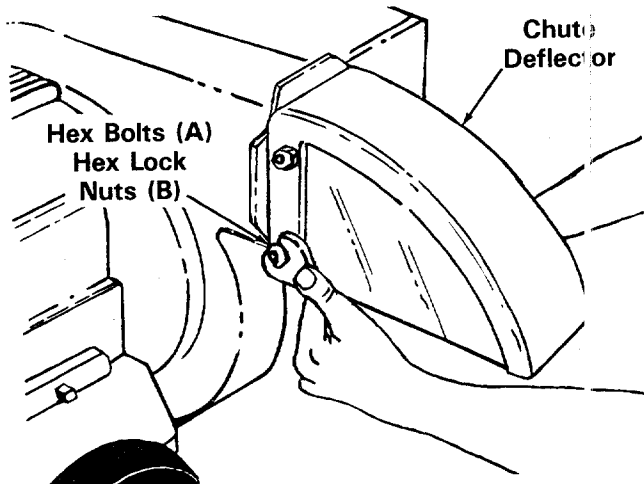

FIGURE 2.
1. Place the chute deflector in position on the discharge opening (on the left side of the shredder). See figure 2.
2. Secure chute deflector to discharge opening with hex bolts (A) and hex lock nuts (B). Heads of the hex bolts are inside the discharge opening. Hex nuts go on the outside.